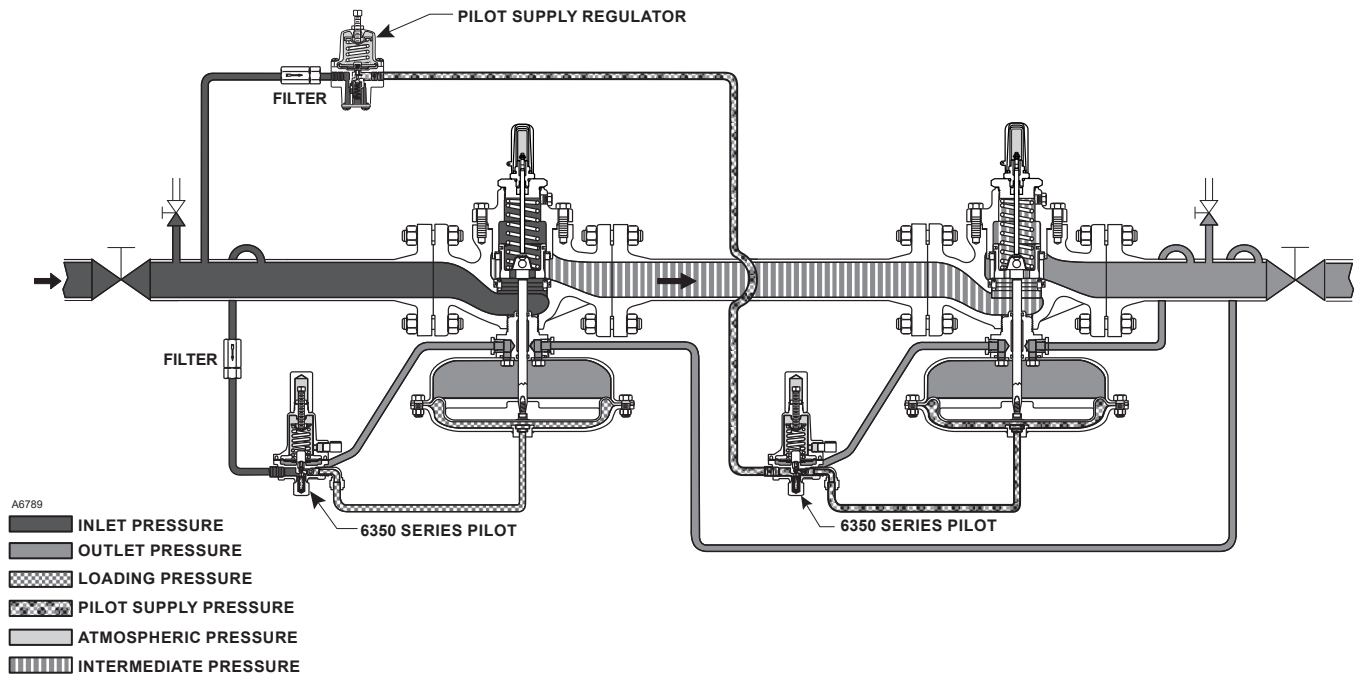

Figure 7. Typical Wide-Open Monitor Installations
Wide-Open Monitor (Figure 7)
2. Connect the control line of the wide-open monitoring regulator (Figure 7) to downstream piping near the working regulator control line connection. During normal operation the wide-open monitoring regulator stands wide-open with the pressure reduction being taken across the working regulator. Only in case of working regulator failure does the wide-open monitoring regulator take control at its slightly higher setting.
As well as applying to a single-pilot regulator (Figure 3), the steps in this procedure are also valid for a dual-pilot regulator (Figure 4) or a wide-open monitoring installation (Figure 7) and just need to be repeated for each regulator in such an installation.